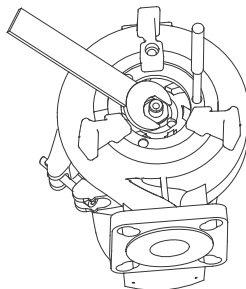

Fig. 14 Removing the screw and grinder head
5. Remove the grinder ring (44).
7. Remove the screw (188a) including washer (66) from the shaft end. See fig. 14.
8. Remove the grinder head (45).